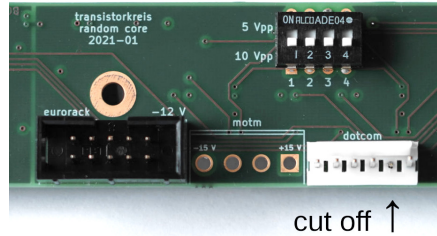

Figure 8: DIP switch and power connectors.
The Core PCB is almost complete: All SMD components have already been soldered and the firmware for the STM32 has already been flashed and tested. You still have to solder the remaining components, see figure 8 and 9:
- o that the orientation of the power connectors J1 and J3 is correct, see their printed outline on the PCB and figure 8.
Pin 2 of the Moog power connector J1 must be cut off with a small side cutter. This pin is marked on the PCB and in figure 8.